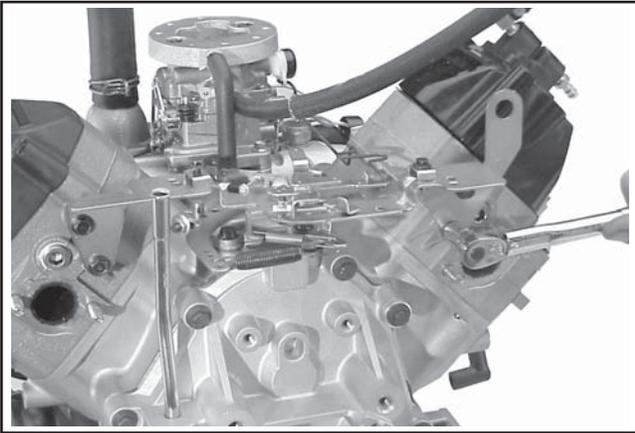

Figure 11-87. Installing Main Throttle Bracket.
4. Connect the choke lever of the main control bracket to the choke linkage from the carburetor. Mount the main control bracket to the cylinder heads with the four screws. Torque the screws to **10.7 N·m (95 in. lb.)** into new holes, or **7.3 N·m (65 in. lb.)** into used holes. See Figure 11-87.